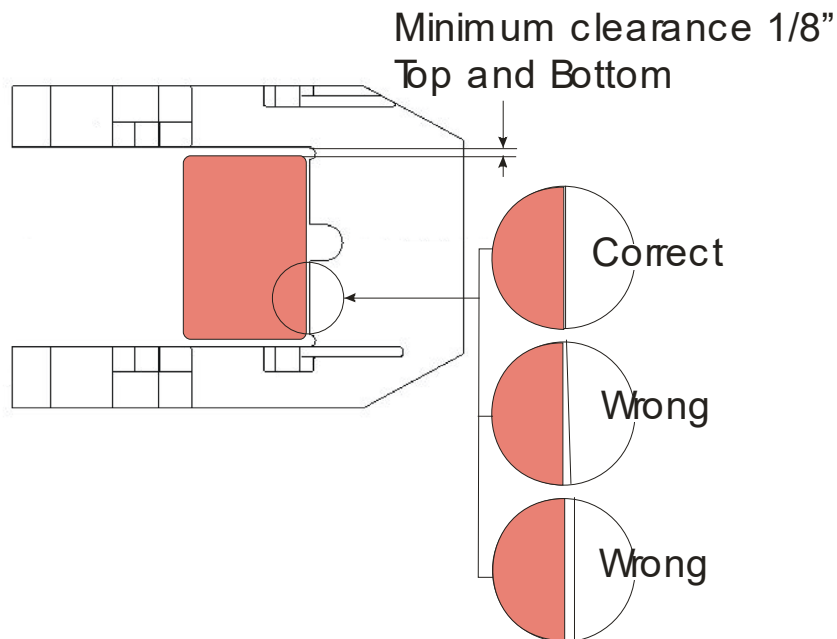

Figure 2: Latch wear inspection
5. Check the clearance between latch and lug – top and bottom (Figure 2).
6. Check that the latch and Lug faces are parallel (Figure 2).